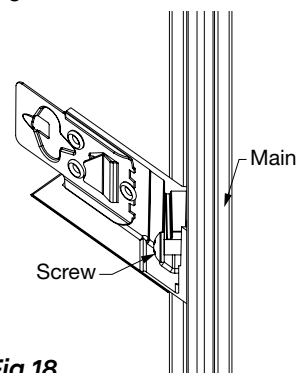

Fig 18
- Partially insert a screw from the front side to temporarily hold the bracket in place (**Fig 18**)